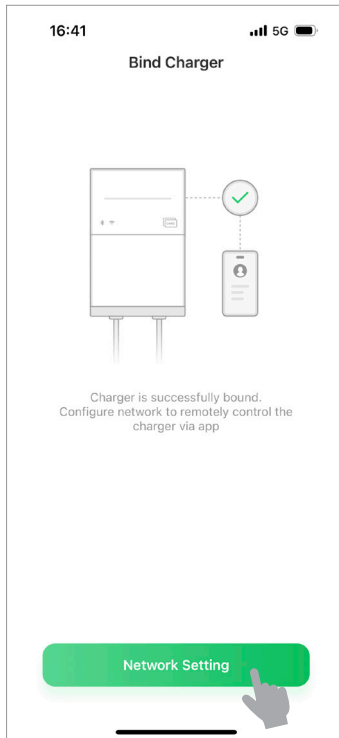
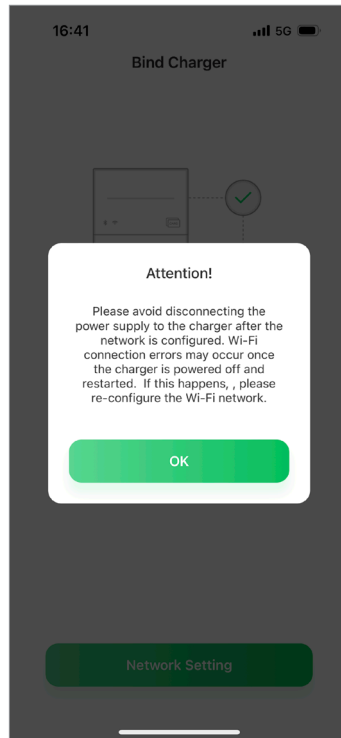

Fig. 5-9
Fig. 5-10
1. After the charger is successfully connected via Bluetooth, tap "Network Setting" (See Fig. 5-9). Tap "OK" when the Attention message pops up. (See Fig. 5-10)